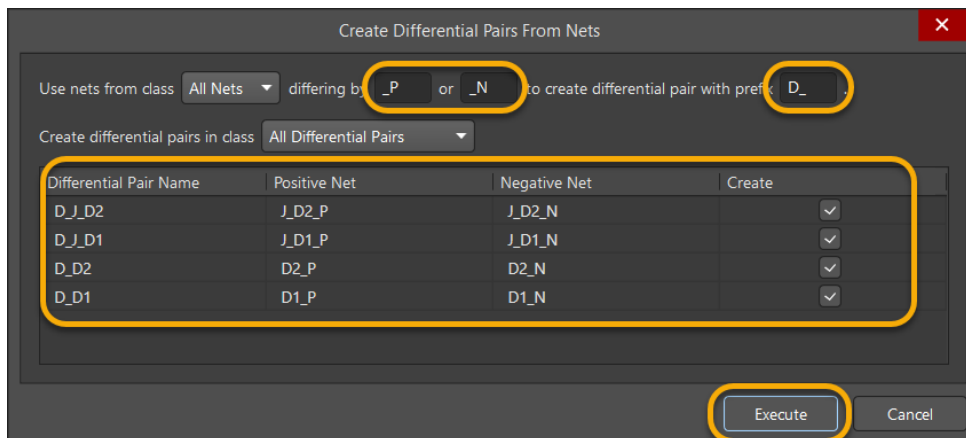

Figure 4. Create Differential Pairs from Net dialog
20. This opens the *Create Differential Pairs From Nets dialog*, where you see the differential pair creation options, Figure 4. Review the default configuration: